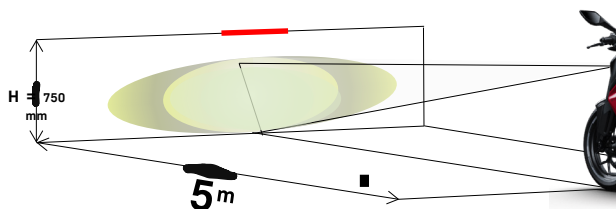

Fig.4
5. The top-most brightest line of the head light low beam should be on the line marked on the wall. If it is not coinciding, the head light beam height needs adjustment. Fig 4 shows an improperly adjusted head light beam, where the beam is below the marked line.